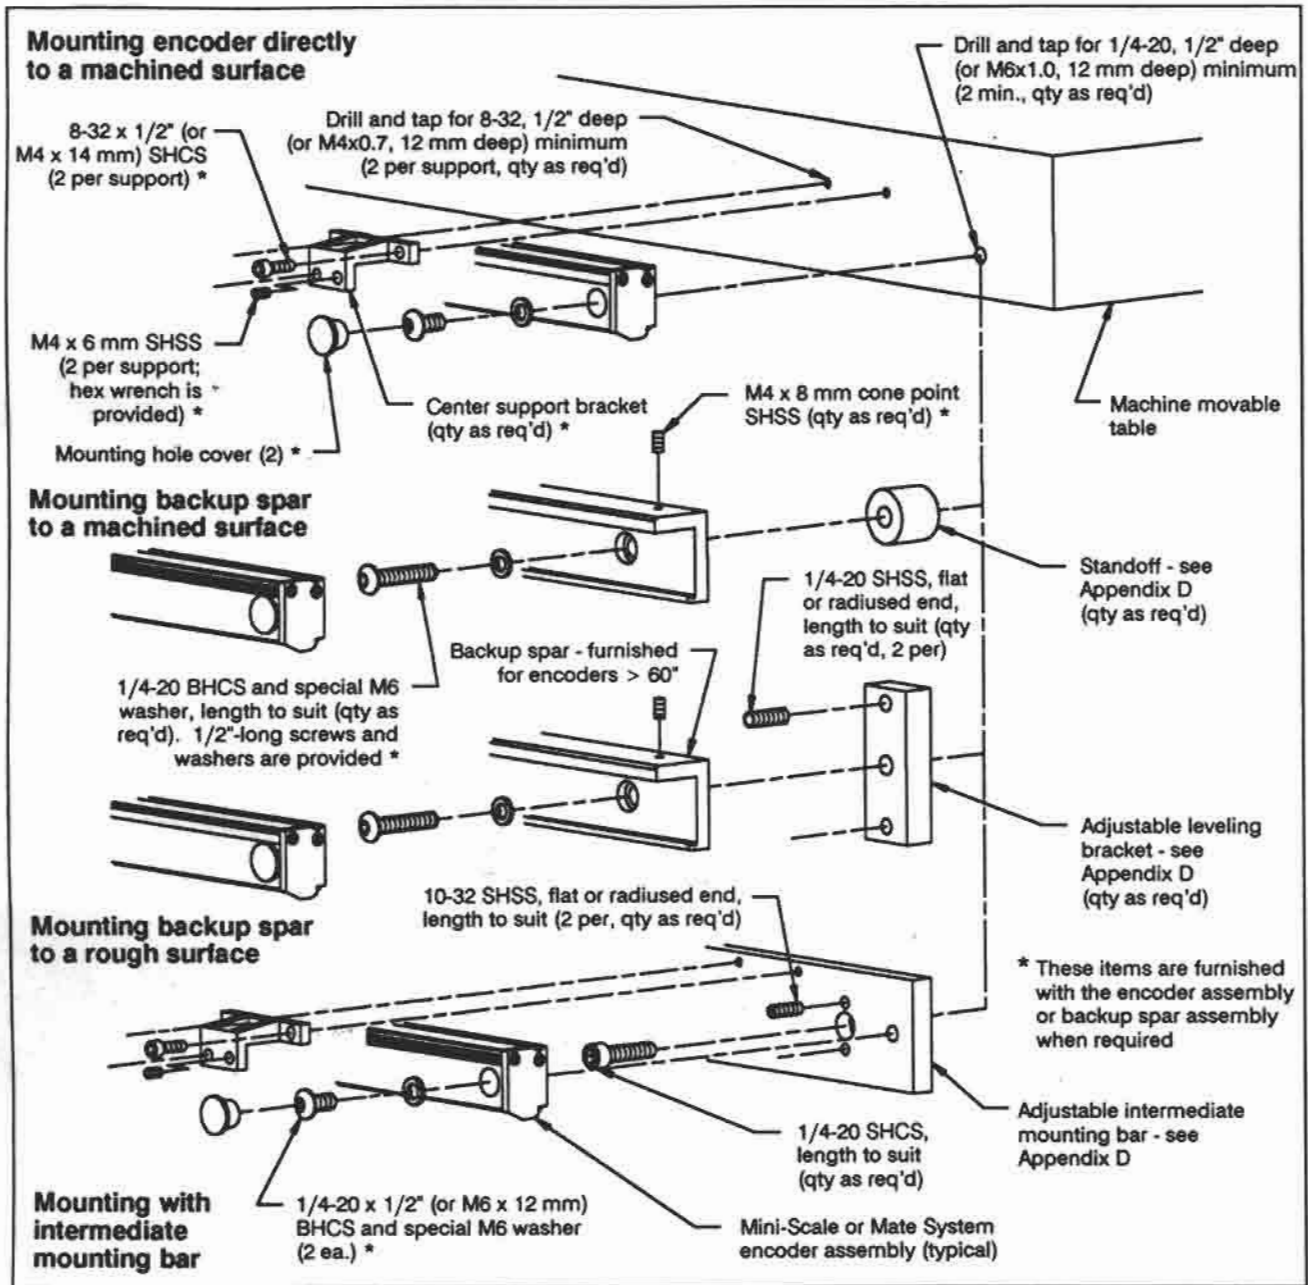

Figure 2-13. Recommended mountings for Mini-Scale and Mate System linear encoders
- A full-length mounting surface is not required. The encoder or spar can be mounted with standoffs to machined surfaces or by using custom fabricated brackets or adjustable mounts on non-machined mounting surfaces (Figure 2-13). Mounting surfaces must be flat and aligned parallel to the machine travel and to each other within 0.005" (0.13 mm). Shimming is allowed.
- Center supports are not required, and the encoder end mounting holes are not used, when using a backup spar (Figure 2-13). TurnMate encoders include a backup spar.
machined mounting surfaces (Figure 2-13). Mounting surfaces must be flat and aligned parallel to the machine travel and to each other within 0.005" (0.13 mm). Shimming is allowed. Center support mounting surfaces must provide a minimum of 1.405" (35.7 mm) height (1.435" for the 32" and 35" encoders) and 1.90" (48.3 mm) width.
Figure 2-13 illustrates several recommended mounting methods. The type of mounting that is chosen depends on the physical characteristics of the particular machine tool, such as if there are machined surfaces available in the proposed mounting areas.
- 5 Fabricate any encoder and center support mounting blocks required. Mount the encoder or spar to the machine using one of the methods illustrated in Figure 2-13 and described in Section 2.